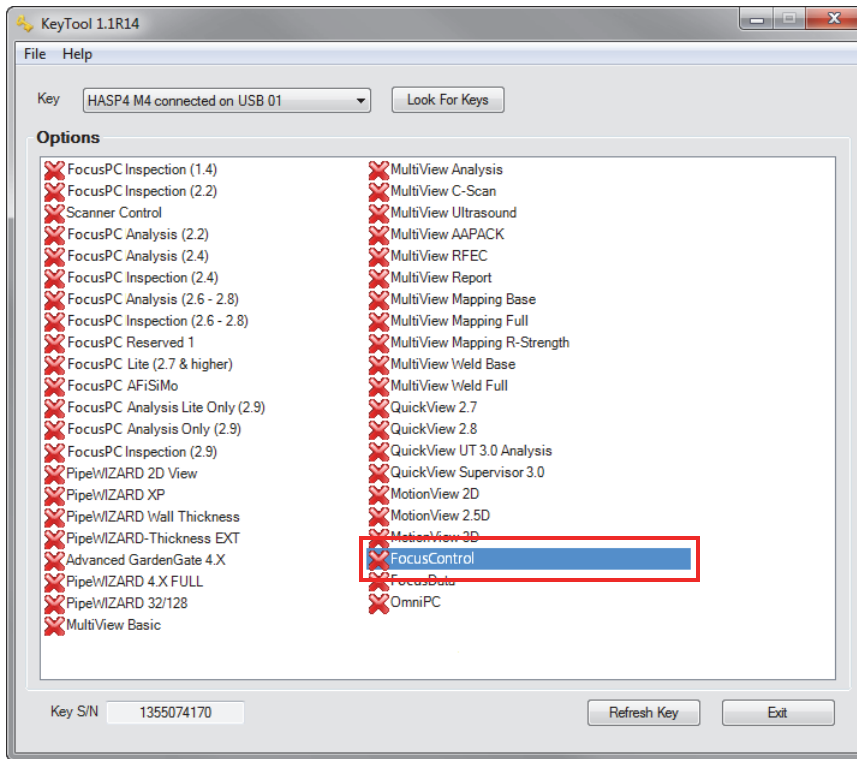

Figure 6-4 The KeyTool window with FocusControl license
- ◆ On the Windows taskbar, click the Start button, click **All Programs**, click **Evident NDT**, and then click **Keytool [Version Number]** (see Figure 6-4 on page 98).